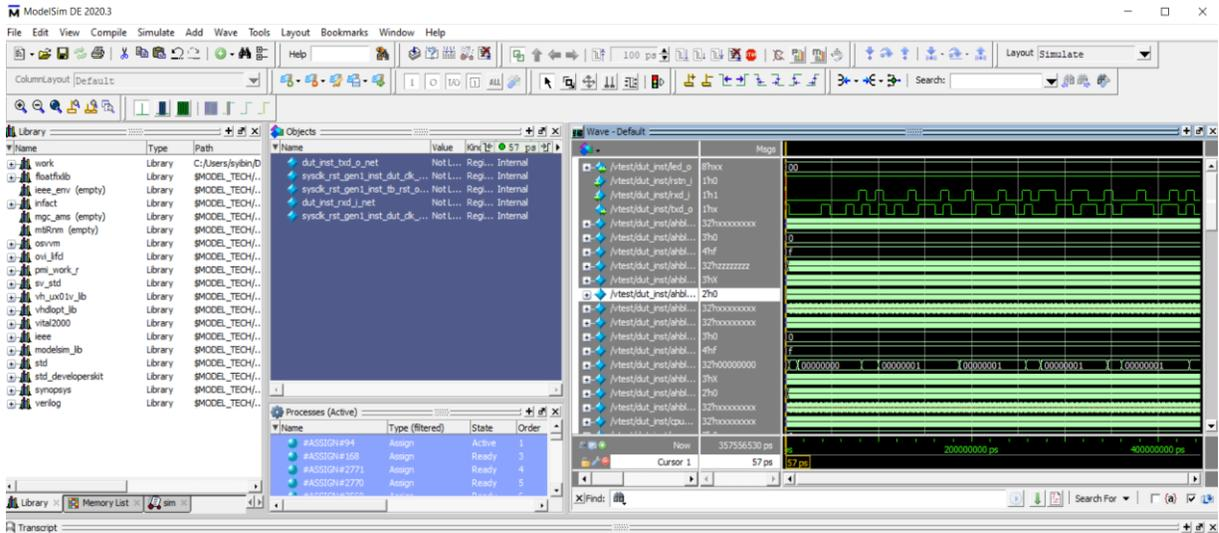

Figure 2.72. Simulation GUI
2. The default simulation tool, ModelSim, OEM version, opens (Figure 2.72).